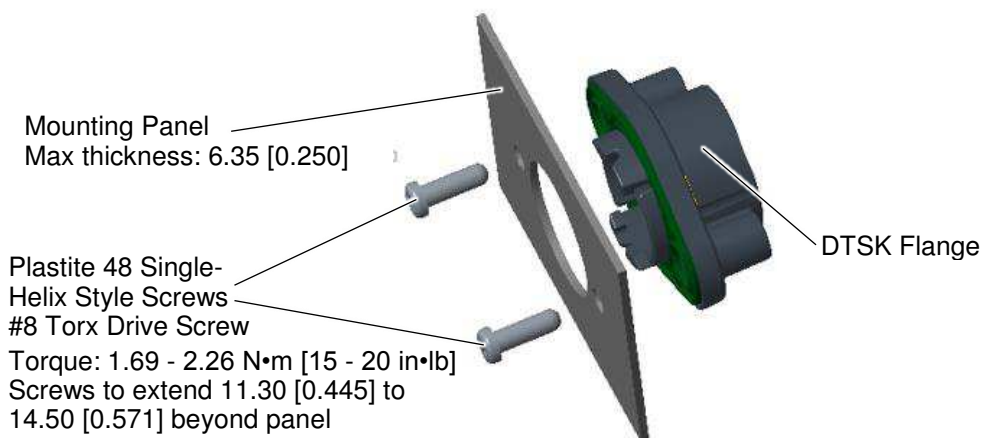

Figure 13
- The flange to be mounted to a panel is shown in Figure 13.